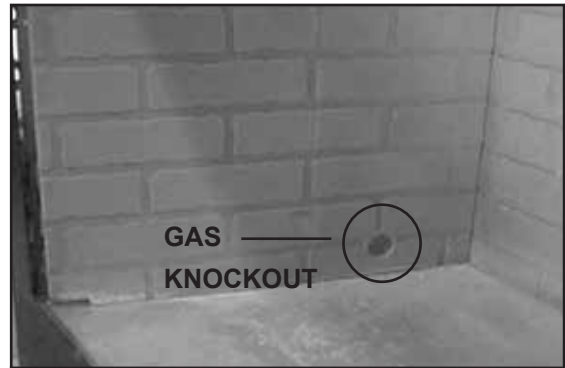

Figure 8.5 Gas Knockout
**Note:** To ensure proper installation, gas knockouts in the side refractory should be positioned towards back of fireplace. See Figure 8.5.